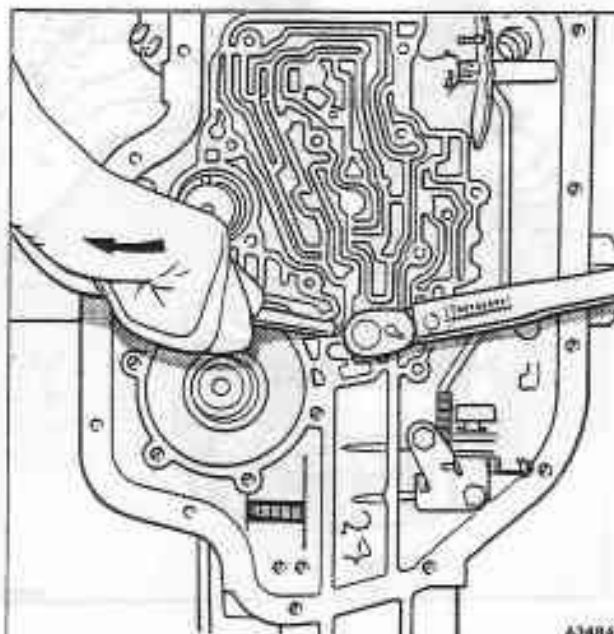

Fig. T20-21 Locating the centre support
8. With the transmission in a vertical position (see fig. T20-21), fit the case to centre support bolt by placing the centre support locating tool J-23093 into the case direct clutch passage. Ensure that the handle of the tool is pointing to the left as viewed from the valve body side and parallel to the bell housing mounting face.
9. Apply pressure to the tool handle as shown in figure T20-21, which will tend to rotate the centre support anti-clockwise as viewed from the bell housing end of the transmission.